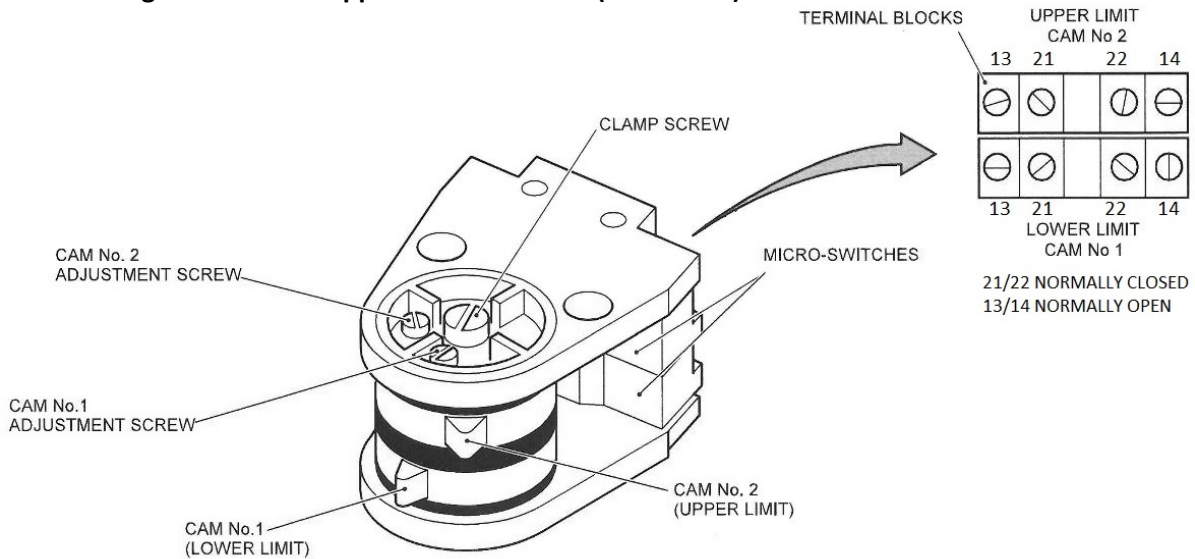

Figure 14 – Setting the Ultimate Upper Limit Switch – Rotary Type
- Remove the lid from the second upper limit and loosen the central clamp screw (Figure 14).